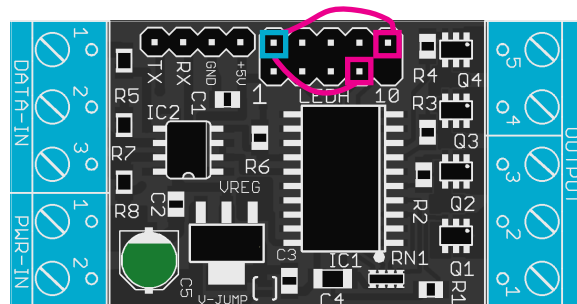

Fig. 9a
- With the device powered off, either make the jumper connections like in Fig. 9a or hold down both the buttons on the external LED display.